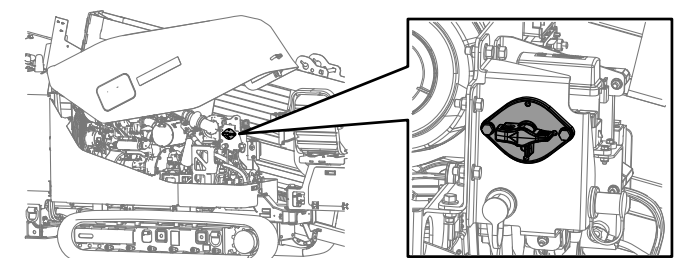

Figure 39
- To energize the machine electrically, rotate the BATTERY-DISCONNECT switch clockwise to the ON position (Figure 39).
- To de-energize the machine electrically, rotate the BATTERY-DISCONNECT switch counterclockwise to the OFF position (Figure 39).